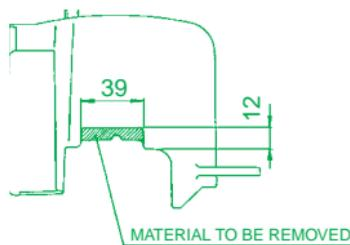

Fig. 1
- Fit the head gasket (9) and the head (7) on the stud bolts fully home on the cylinder.
- Fit cover (modified as shown in Fig. 1) on the cylinder, the air conveyor, and the new spark plug (see section "Important notes").